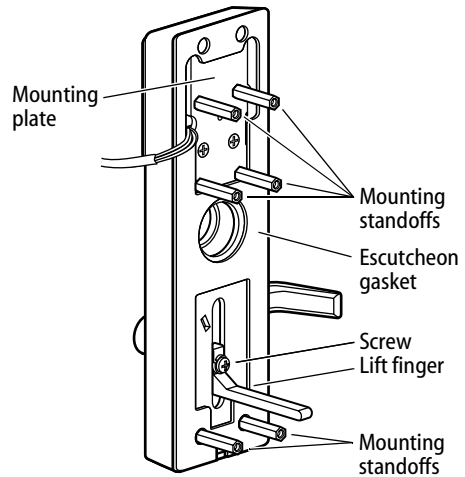

Figure 1 Removing and reinstalling the mounting standoffs, gasket, and lift finger
- 1 Unscrew the six mounting plate standoffs from the mounting plate (Figure 1).
- Position the washer on the lift finger screw. Tightly secure the lift finger with the lift finger screw (25–30 foot-pounds of torque) (Figure 1).
- Screw the six mounting standoffs onto the mounting plate (Figure 1).